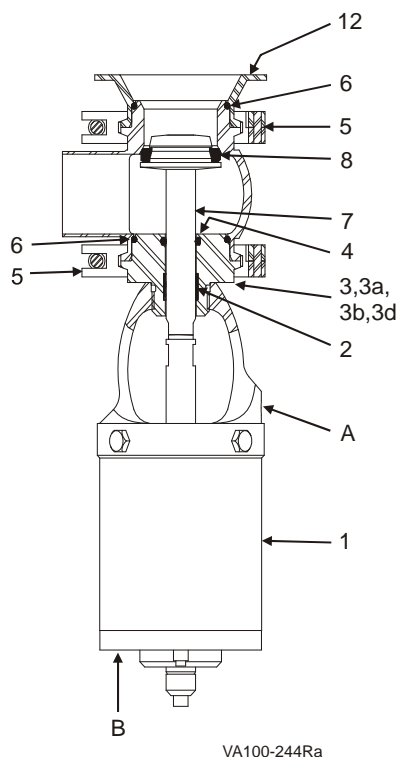

Figure 20: W64R/W84R Tank Outlet Valve
1. Remove the body/tank flange clamp (Figure 20, item 5) and remove the valve from the tank flange.
4. Remove the body clamp (item 5) and body from the adapter (item 3).
5. Using 5/8-inch wrench flats on the stem, unscrew and remove the valve stem (item 7).
6. Replace the seat ring (item 8) as needed. See "Seat Replacement" on page 37.
7. Unscrew the adapter (item 3) from the yoke.
8. Remove the body o-ring (item 6) and stem o-ring (item 4); replace as needed.
9. Inspect and replace the PTFE bearing (item 2) as needed.